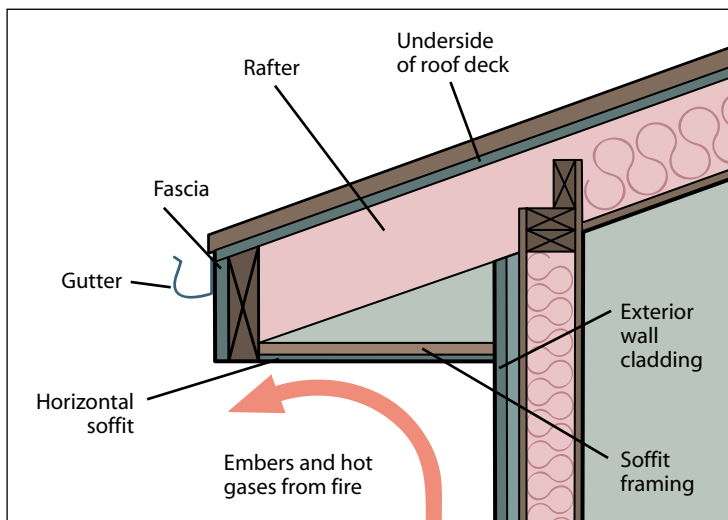

Figure 3. An enclosed overhang with a horizontal soffit.
- Use flat, horizontal soffits (see Figure 3) instead of attaching the soffits to the sloped joists, which creates sloped soffits. A flat soffit reduces the potential for entrapment of embers and hot gases.